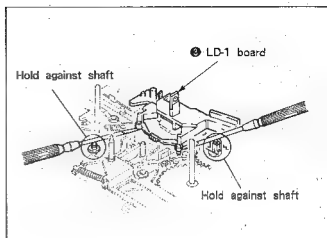

Fig. 7-37.
- 3) Remove stopper washer ① and remove the drive gear B assembly ②.
- 4) Remove the LD-1 board ③. (See Fig. 7-37.)
- 6) Remove the spring ④ and remove B release arm assembly ⑤.
- 8) Remove stopper washer ⑥ and remove the mode output gear ⑦.
- 9) Remove screw ⑧.
- 10) Unsolder the RECOG switch ⑨ in three places, and remove it.
- 11) Disconnect connector ⑩.
- 12) Remove the three screws ⑪, and remove the control motor cover assembly ⑫.
- 13) Push the T.S release arm assembly ⑬ in the direction of arrow ⑭ while holding up the M-SW assembly ⑮. And then, push the T main brake assembly ⑯ in the direction of arrow ⑰ and remove the M-SW assembly ⑮.
- 14) Remove solder ⑱ and remove the control motor ⑲.